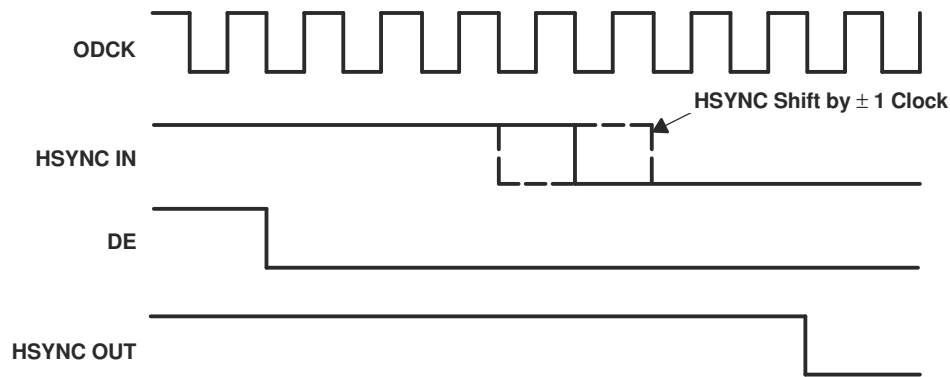

Figure 9-3. HSYNC Regeneration Timing Diagram
The TFP401A integrates HSYNC regeneration circuitry that provides a seamless interface to these noncompliant transmitters. The position of the data enable (DE) signal is always fixed in relation to data, irrespective of the location of HSYNC. The TFP401A receiver uses the DE and clock signals to recreate stable vertical and horizontal sync signals. The circuit filters the HSYNC output of the receiver, and HSYNC is shifted to the nearest eighth bit boundary, producing a stable output with respect to data, as shown in Figure 9-3. This ensures accurate data synchronization at the input of the display timing controller.